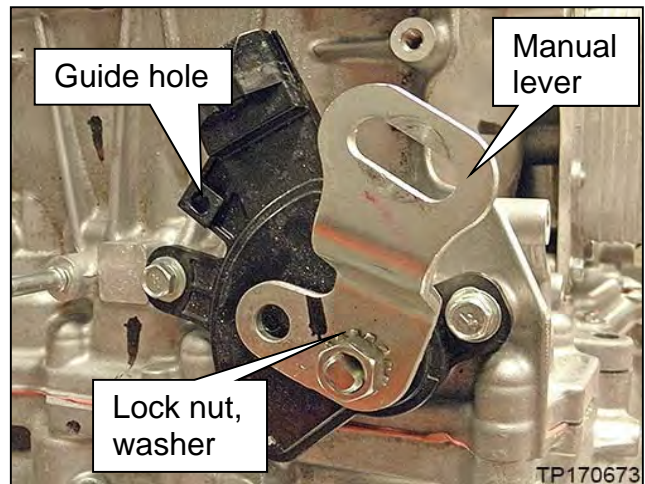

Figure 212
- The alignment pin will insert into guide hole in the transmission range switch (Figure 212).